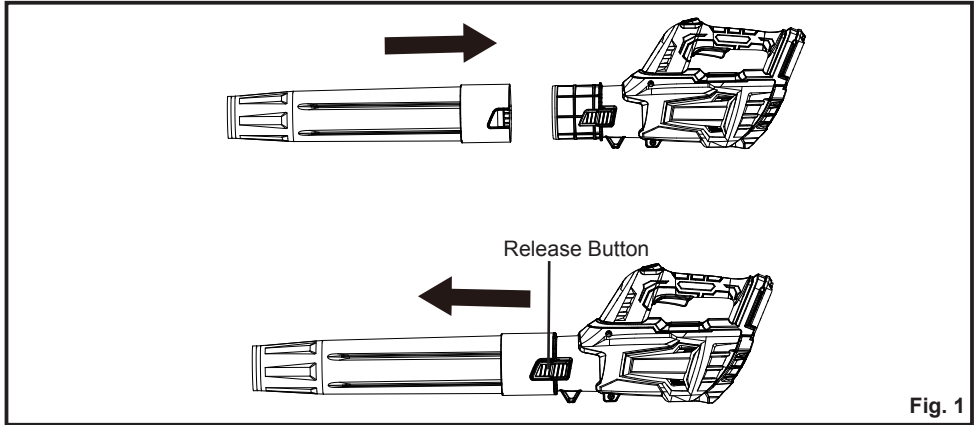

Fig. 1
2. Slide the blower tube over the opening until it snaps in place (Fig. 1). Make sure the blower tube is firmly secured.